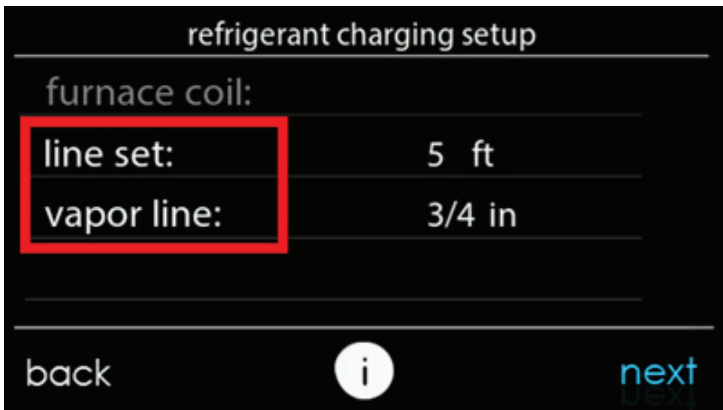
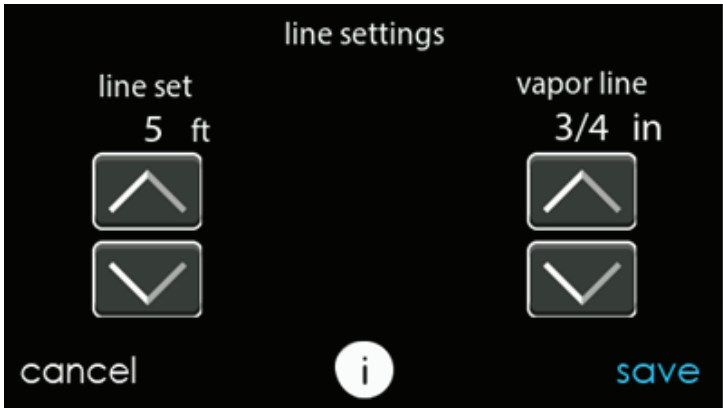

Fig. 16 – Select Line Set Length & Vapor Line Diameter A200035
Fig. 17 – Adjust Line Set Length & Vapor Line Diameter that is Installed A200036
11. Press the text "line set" and "vapor line" to choose line set length and vapor line diameter (see Fig. 16 and Fig. 17). After complete, press "next" to advance to next screen.